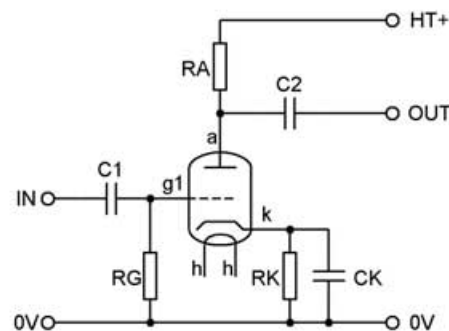

Fig.2. Basic triode valve amplifier circuit.
Referring to Fig.2, if a varying signal is applied to the control grid (g1) via C1, the anode current will vary in sympathy. By placing a resistor (RA) between the anode and the positive supply, the varying current will be converted to a varying voltage on the anode.